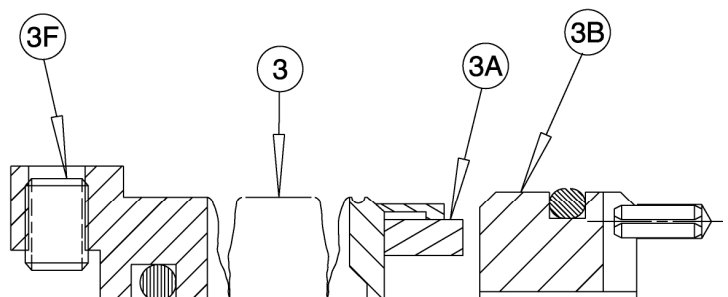

Figure 2 – Metal Bellows Mechanical Seal
3. Remove power rotor (7) and idlers (8) by grasping shaft of power rotor and easing it out of housing (1). Set idlers (8) aside.
- a) For Elastomeric Bellows Type Seals (see Figure 2 below) – Slide rotating assembly (3) of mechanical seal (16) off power rotor (7).
- b. **If seal is metal bellows type, (see figure 2)**, apply a light film of oil to rotating seat O-ring of seal and slide rotating assembly (3) on power rotor shaft (7). For 95 sizes only, be sure slots in rotating assembly (3) line up with seal return hole in power rotor shaft. Tighten setscrew (3F). Do not touch carbon seal face with fingers. Clean carbon face of seal with alcohol and lint free cloth. Apply light film of clean lubricating oil to carbon face.
6. Apply light film of clean lubricating oil on seat and O-ring of stationary seat (3B) of mechanical seal (16). Install stationary seat (3B) into bore in inboard cover (4) with fingers (do not touch seal face with any tools) so slot in face of seal is facing into inboard cover (4). Be sure stationary seat (3B) is all the way to bottom of bore in inboard cover (4) and slot in seal mates up to pin (95) in inboard cover (4).
7. Clean stationary seat of mechanical seal (16) in inboard cover (4) with alcohol and soft, lint free cloth, and apply light film of clean lubricating oil to carbon face.
8. Mesh the two idler rotors (8) and power rotor (7) together into a rotor assembly making sure idler rotors and balance piston are properly engaged.
9. Install rotors by positioning pump housing in a vertical position and sliding rotor assembly into housing bore (1) until ball bearing (11) bottoms out in housing bore.
10. Install O-ring (31) in groove in inboard cover (4).